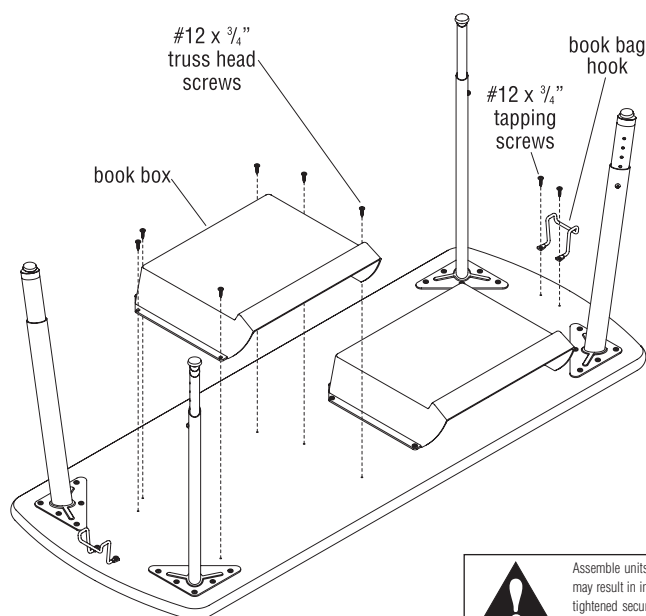

Figure 2
1. Align the holes in the book box over the pre-drilled holes in the worksurface as illustrated (Figure 2).
2. Insert a total of six #12 x 3/4" Phillips truss head screws through the mounting holes in the book box and into the underside of the worksurface. Secure with all six screws, but **do not over-tighten** (Figure 2).
1. Align the holes in the book bag hook over the pre-drilled holes in the worksurface as illustrated (Figure 2).
2. Insert two #12 x 3/4" tapping screws through the mounting holes in the book bag hook and into the underside of the worksurface. Secure both screws, but **do not over-tighten** (Figure 2).